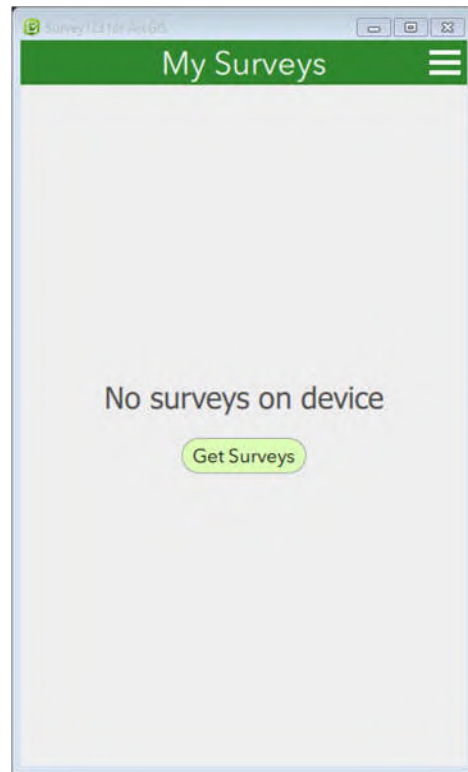

Figure 3- Survey123 My Surveys (no forms) Screen
3. Sign In using your ArcGIS Organization Username and Password. This will open the My Surveys screen (Figure 3).